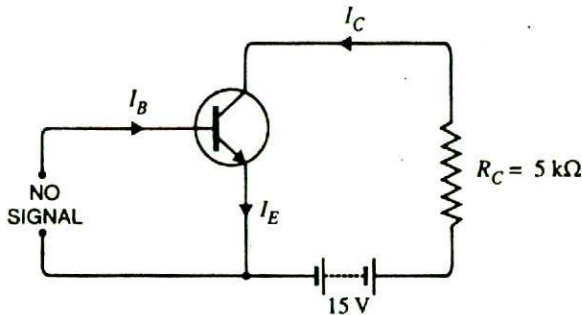

Fig. 10.44
7. For the circuit shown in Fig. 10.44, draw the d.c. load line.